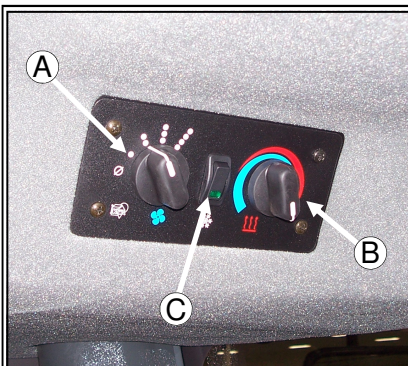

FIG. 27-4
**CLIMATE CONTROLS** - The climate controls (fig. 27-4) are continuous adjusting dial switches located on the front upper cab headliner.
**Adjusting Fan Blower Speed**– fan blower speed is controlled by the left rotary dial (fig. 27-4, item A). To increase the fan speed, rotate the dial clockwise. To reduce the fan speed, rotate the dial counterclockwise. To shut the fan off, rotate the dial all the way counterclockwise.
**Adjusting Temperature Setting**– forced air temperature adjustments are controlled by the right rotary dial (fig. 27-4, item B). Temperature control is a continuously variable adjustment. To increase the forced air temperature, rotate the dial clockwise. To decrease the forced air temperature, rotate the dial counterclockwise.
**Operating the Air Conditioning**– to activate the air conditioner, press the air conditioning switch (fig. 27-4, item C). Adjust fan speed and temperature accordingly. See section B under SERVICE for servicing information.